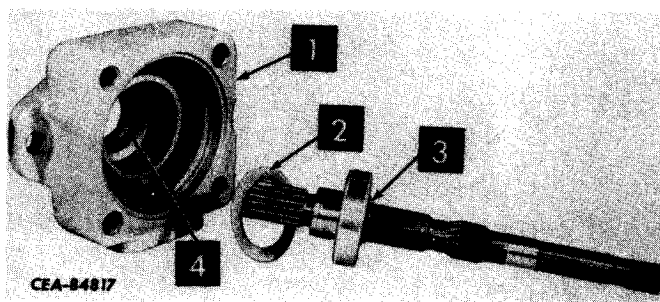

Figure 11-10
Remove washer (2, Fig. 11-10). Remove seal (4) from pump body (1). Remove small snap ring (3) and press bearing from shaft.